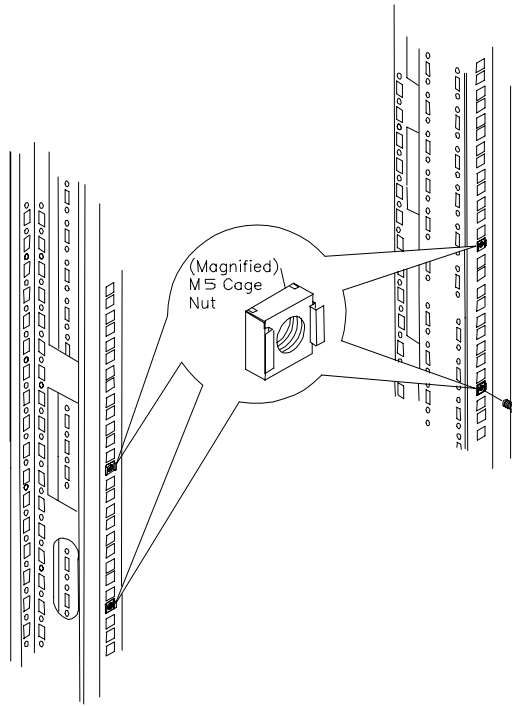

Figure 2-6. Inserting the Cage Nuts for the BSU Faceplate
4. Insert four M5 cage nuts in their marked locations on the front vertical mounting rails (see Figure 2-6), as follows: